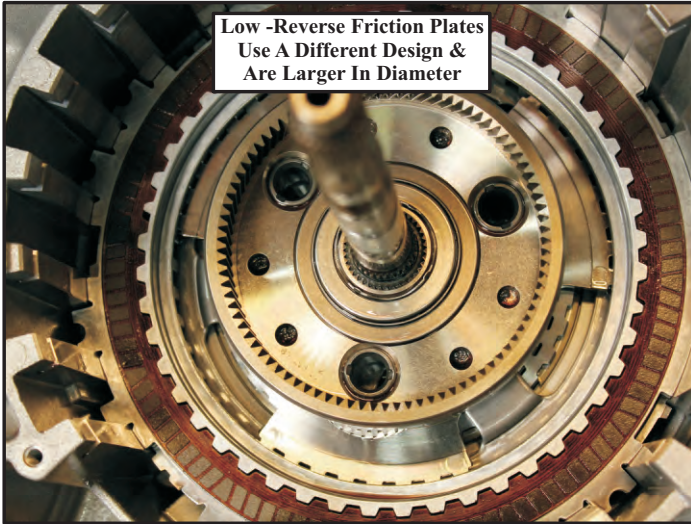

Figure 13
- (9) The low reverse friction plates have the outside diameter increased from the previous 8.43 inches to 8.57 inches to reduce drag. The friction material also changed to what is called a DOT type (figures 13 and 14).